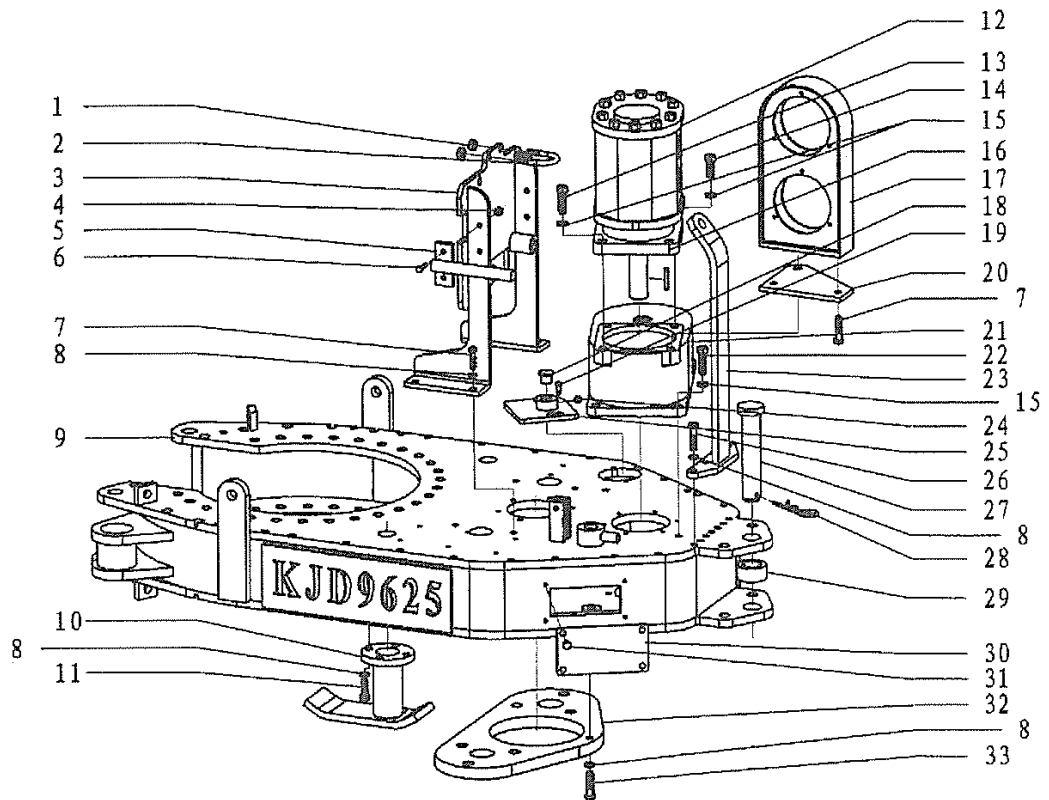

Fig6.
8.5 Case body and tong tail accessories (Fig6. Table6)